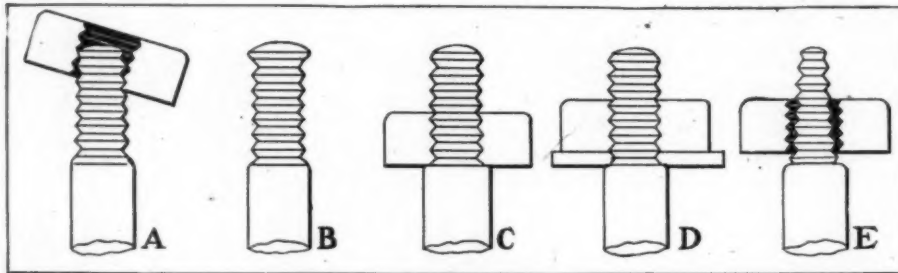

Fig. 1.—Illustrating the different ways in which threads are abused; also, defective thread
**TROUBLES WITH BOLTS AND NUTS**—Care should be taken in starting a nut that it does not get cross-threaded, as shown (exaggerated) at A, Fig. 1. This more often happens when the thread is fine. In any case it often means the replacement of either the nut or bolt, or both, and there is no need for its occurring at all, if the nut is not forced when it is a little bit askew. Often when the nut cannot be made to start on the thread as it should the trouble is due to the burring of the first thread, as at B. This burring usually results from striking the end of the bolt with a hammer. When-